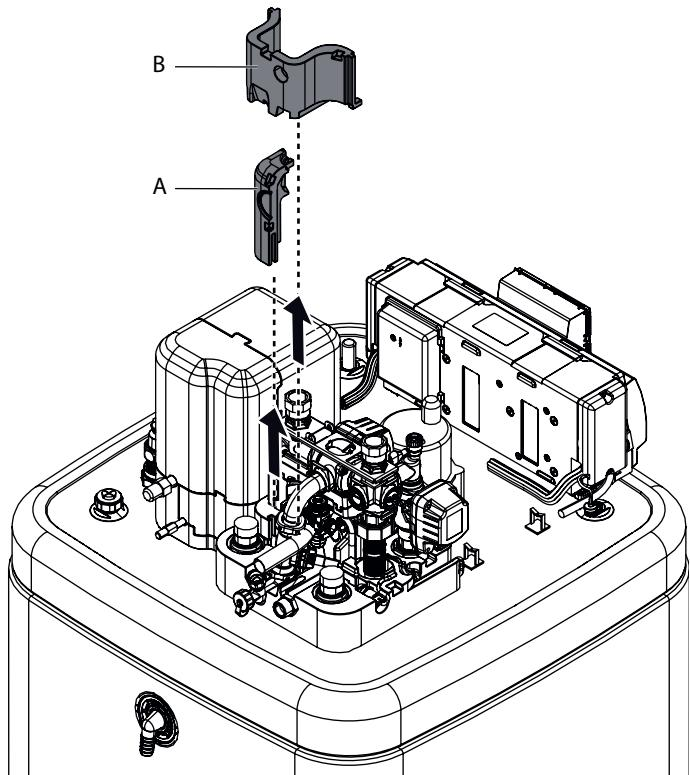

Fig. 4-9 Removing bottom thermal insulation
- Pull away the side insulation element (fig. 4-9, item A) vertically.
- Pull away the rear insulation element (fig. 4-9, item B) vertically.